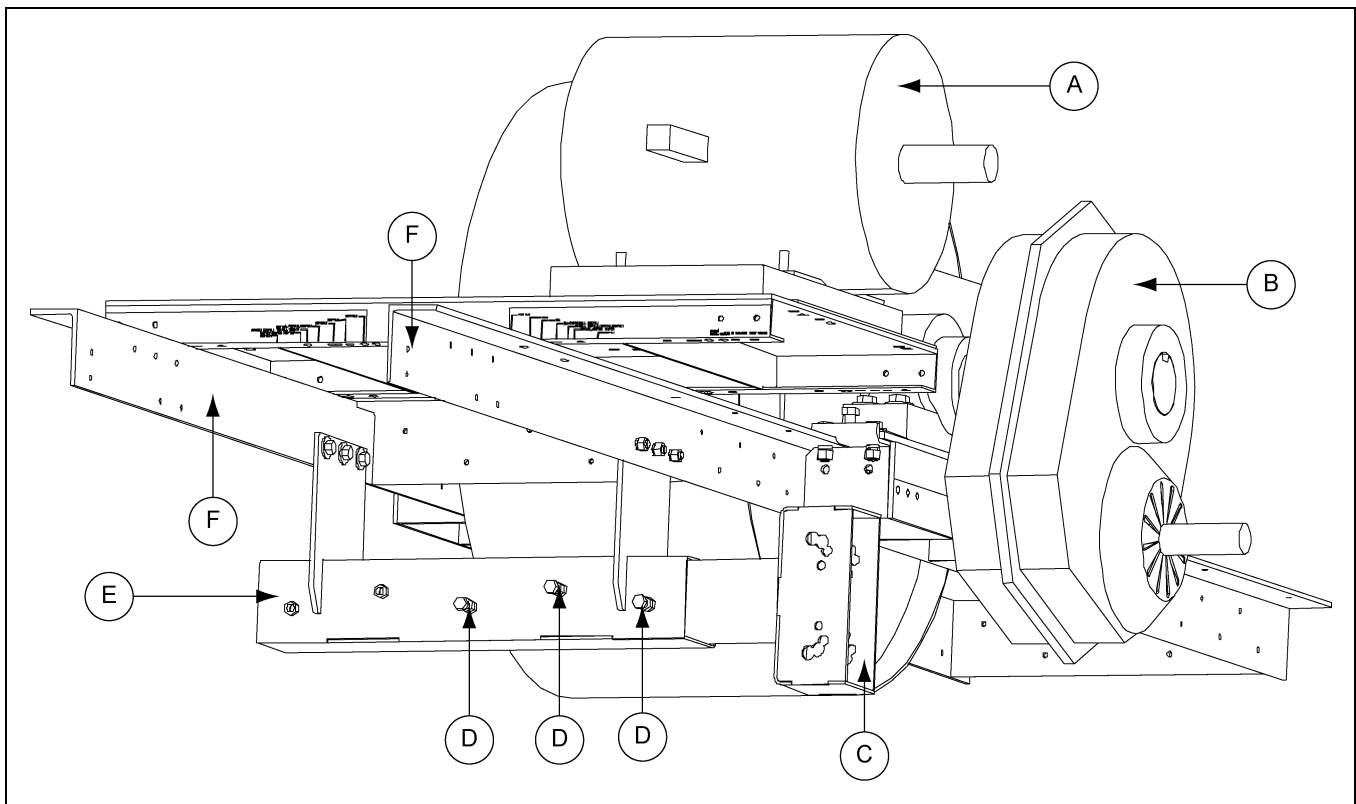
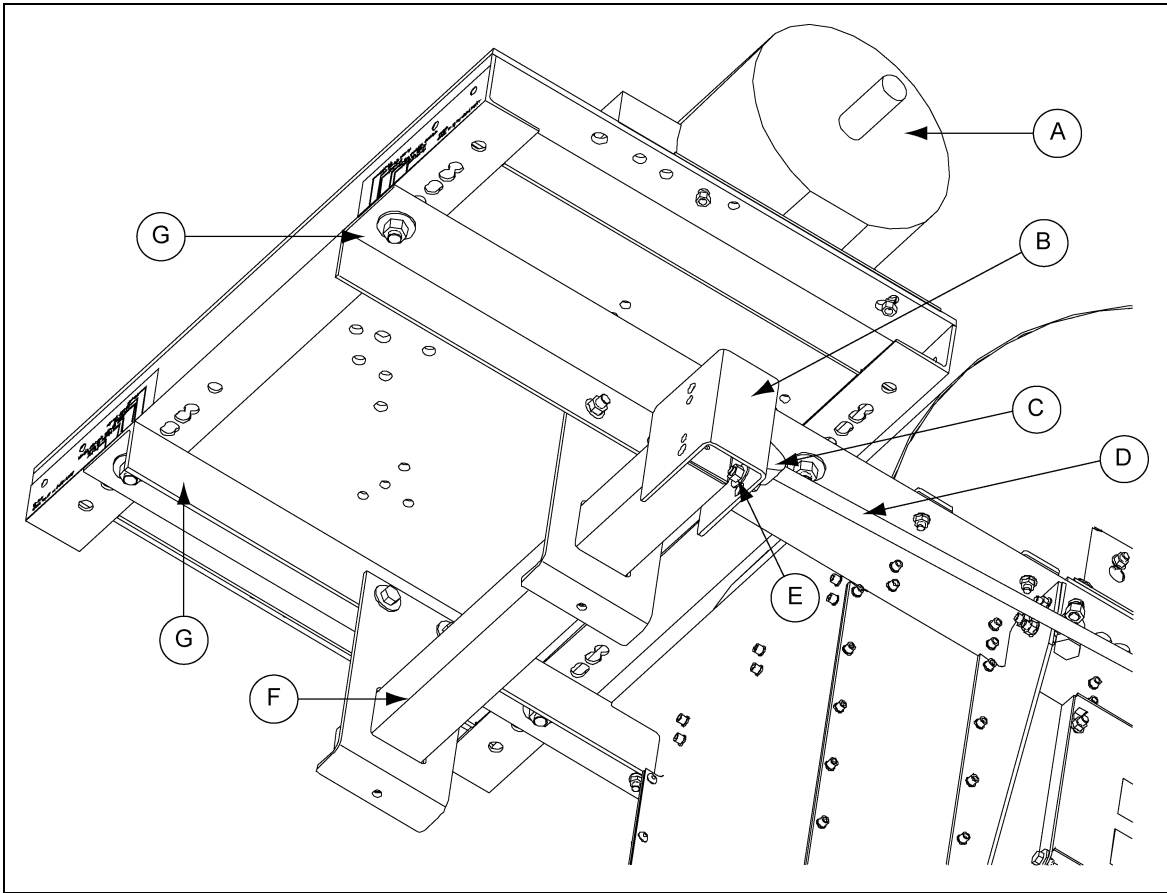

Figure 11D Torque Arm (30"-48")
Figure 11E Torque Arm (16"-24")
1. Place the torque arm tube assembly on the head section by sliding the two (2) gussets of the torque arm assembly between the head bearing angles.
3. Attach with the proper hardware. (See Figure 11D below and Figure 11E on Page 38.)
**NOTE:** In 30" and large elevators, loosen the three (3) locking bolts and place the torque arm foot mounting tube in the torque arm assembly such that the foot mounting bracket is to the side in which the reducer will be mounted. Wait until the reducer is set on the shaft to re-tighten the locking bolts.